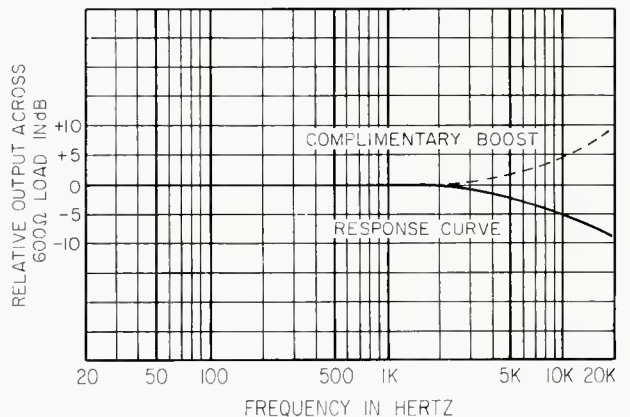

**Figure 1. The effect of an amplifier driving a load through a 1200-foot cable.**
• The discussion of time constants in circuit analysis continues from last month. We found that in an R-C or R-L circuit the time constant relates frequency response to the values of circuit components. We also posed a problem which is shown schematically in *Figure 1*. Here we have an amplifier with a 600-ohm output impedance driving a 1200-foot cable having a capacity of 60  $\mu\text{F}$  per foot, and terminated with a 600-ohm load resistor. The question is, if it is required to have a response within  $\pm 1$  dB to 15,000 Hz, will the cable capacity cause any high frequency problems.
Referring to *Figure 1* we find that the circuit resistance is equal to two 600-ohm resistors in parallel, or 300 ohms. The total cable capacity is  $(1200) \times (60) = 72,000 \mu\text{F} = 0.072 \mu\text{F}$ . The time constant of the circuit in microseconds is equal to  $(R) \times (C)$ , where R is in ohms and C is in microfarads. The time constant of this circuit then is  $(300) \times (.072) = 21.6$  microseconds. Let's round this off to 20 microseconds. We know that 160 microseconds corresponds to 1,000 Hz; 20 microseconds is one eighth of 160 so that the frequency corresponding to 20 microseconds is eight times 1,000 Hz, or 8,000 Hz. Actually, since the time constant is slightly larger than 20 microseconds the corresponding frequency is proportionally lower than 8,000 Hz.